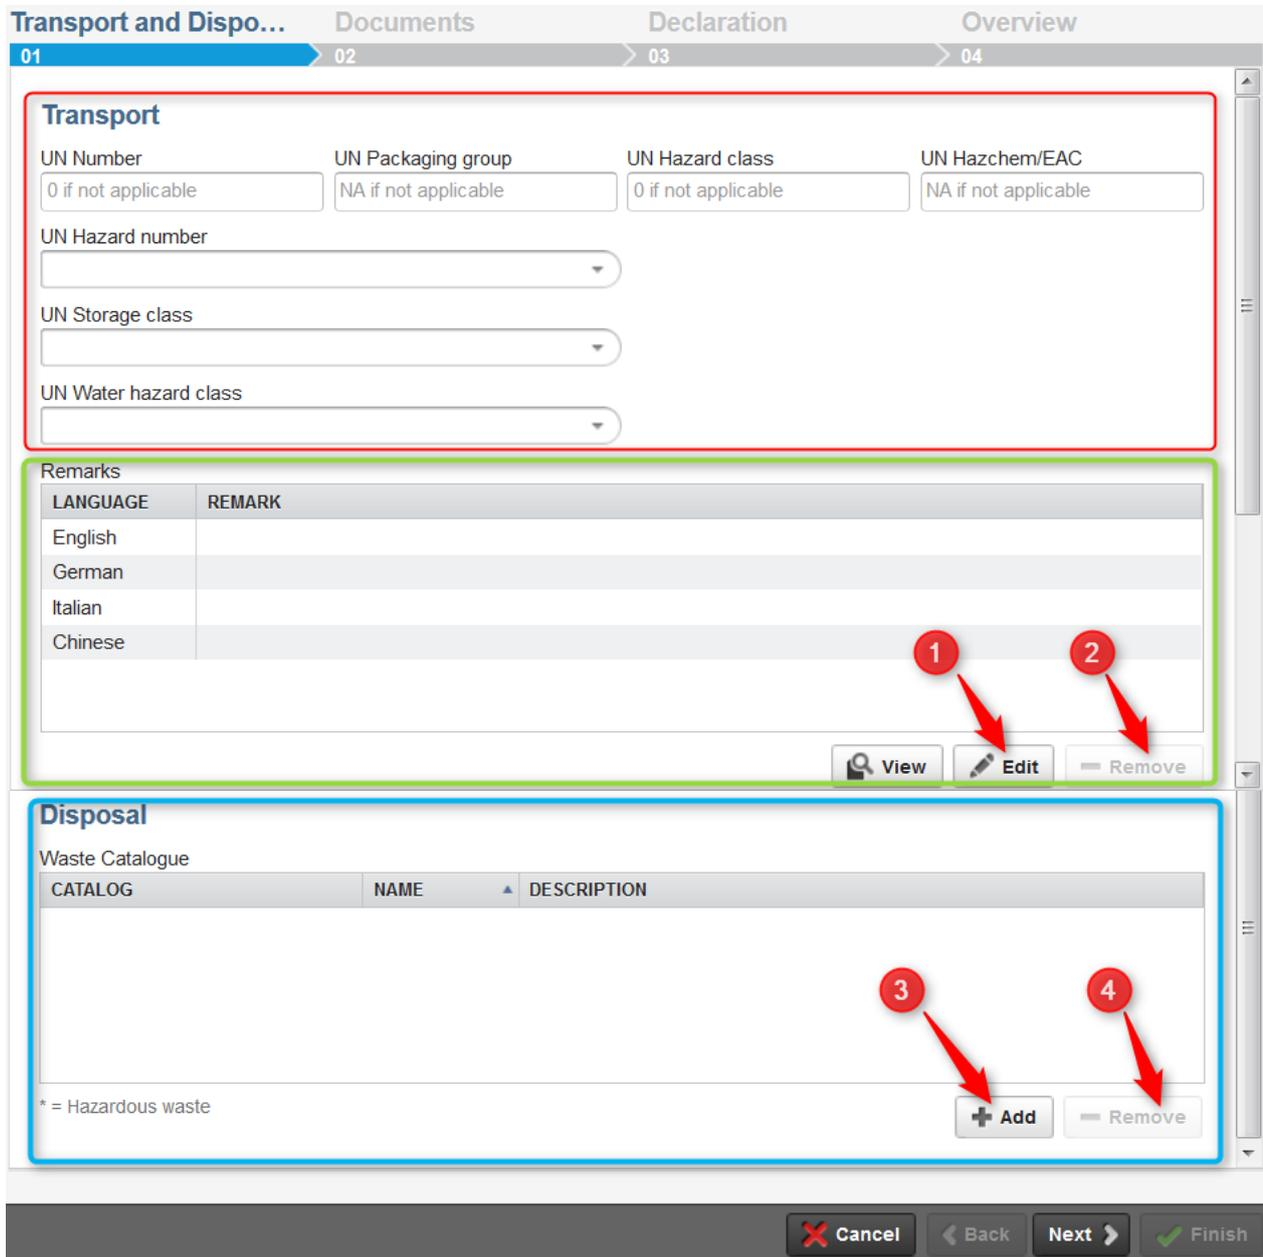
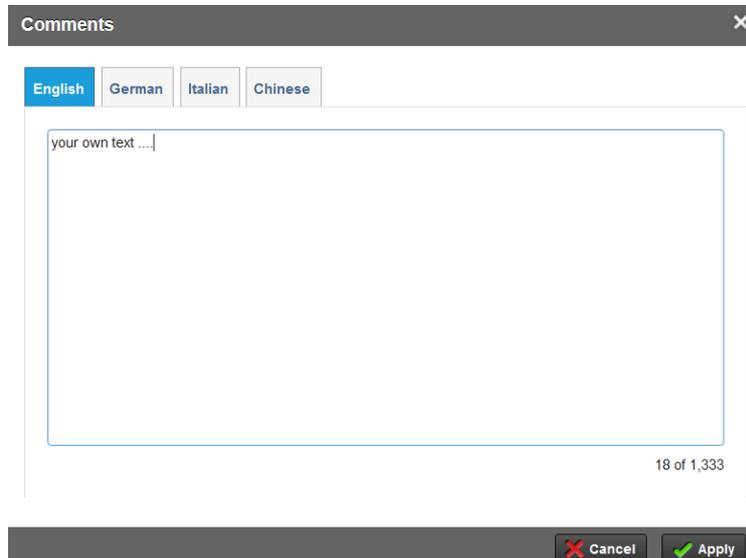
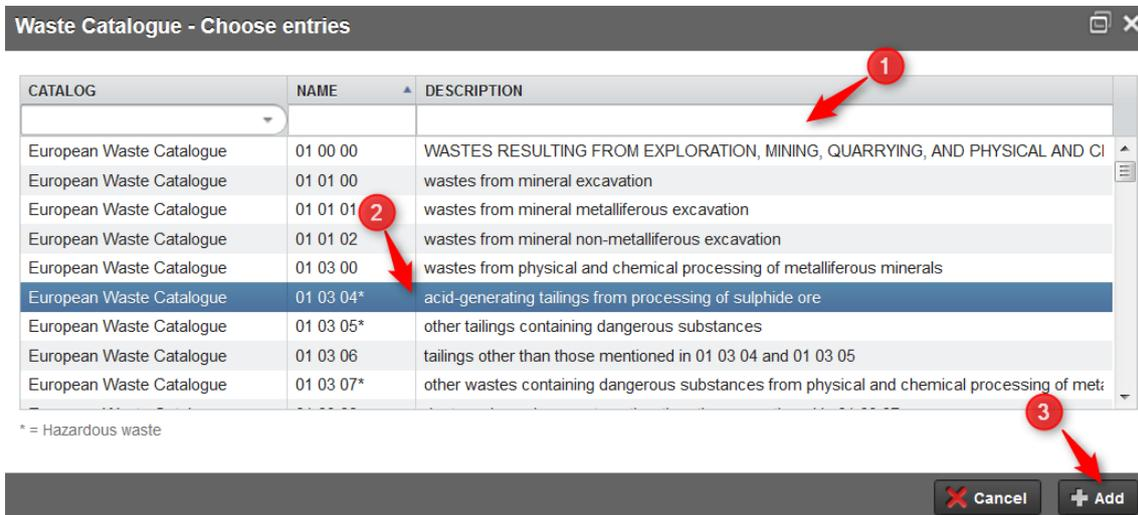

Figure 35: Transport and disposal entries for mixtures
Figure 36: Definition of own remarks according to transport and disposal for mixtures
Figure 37: Definition of disposal information for mixtures
If valid following information can be declared (see Figure 35):
- Transport: input fields regarding the transportation information (see red marked area in Figure 35)
- Remarks: text input field where the user can place special information (see green marked area in Figure 35)
- Disposal: provides the European Waste Catalogue with standardized waste related statements (see blue marked area in Figure 35)
You can add your own special information by clicking “Edit” (point 1 in Figure 35). A new window opens where you can write your remarks. Depending on your SEP version there are different languages for remarks available (standard: English, German, Italian and Chinese – see Figure 36). By marking an (incorrect) remark and clicking on “Remove” a remark can be deleted (point 2 in Figure 35).
By clicking “Add” you can define the valid disposal statements according to the European Waste Catalogue (see point 3 in Figure 35). New window opens where you can search (see point 2 in Figure 37) and choose the relevant statements in the list (see point 2 in Figure 37). By clicking on “Add” the statement will be saved in your declaration (see point e in Figure 37). By marking an (incorrect) statement and clicking on “Remove” a disposal statement can be deleted (see point 4 in Figure 35).